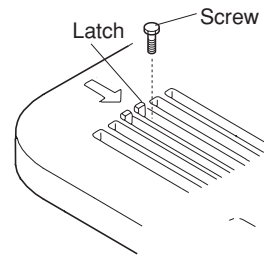

Fig. 9-11b
- (1) Remove the air-intake grille and air filter from the ceiling panel. (Figs. 9-11b, 9-12 and 9-13)
- a) Remove the 2 screws on the latch of the air-intake grille. (Fig. 9-11b)